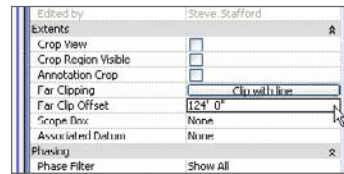

Figure 5.36
**Far Clipping and Far Clip Offset** There are two others in Section, Elevation, and Camera views called Far Clipping and Far Clip Offset (see Figure 5.36). These govern the depth